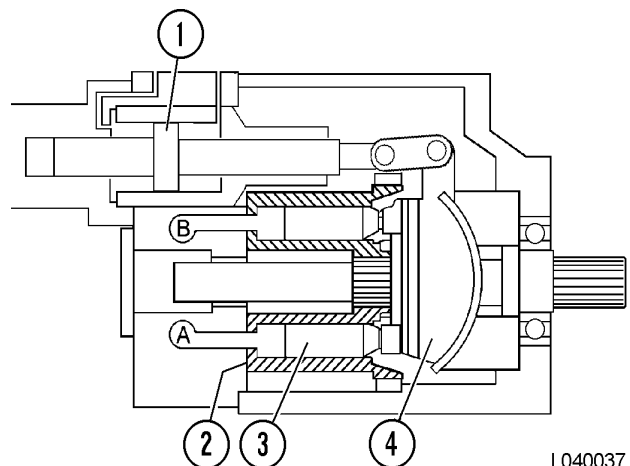

FIGURE 4-14. PUMP IN NEUTRAL POSITION
Neutral position (Figure 4-14) results when control piston (1) centers swashblock (4). The swashblock angle is now zero and the swashblock face is now parallel to cylinder face. Therefore, no inward or outward motion of pump pistons (3) exists as the piston shoes rotate around the swashblock face. The lack of inward and outward motion results in no fluid being displaced from the piston bores to the crescents in the valve plate and, subsequently, no delivery from pump ports.